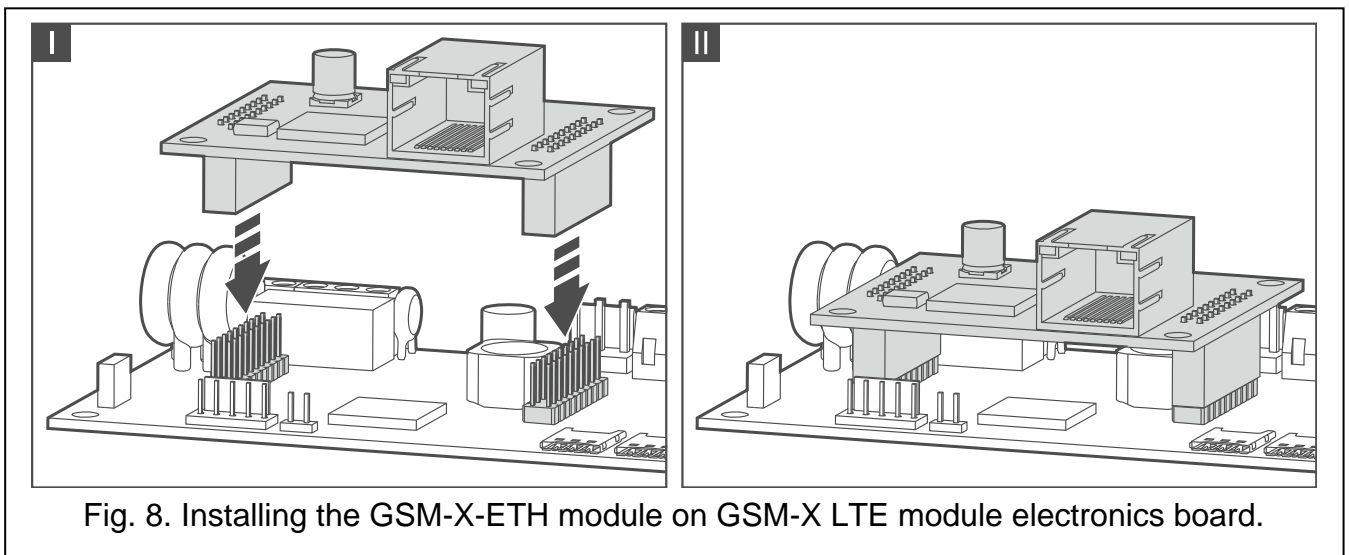

Fig. 8. Installing the GSM-X-ETH module on GSM-X LTE module electronics board.
3. Install the GSM-X-ETH Ethernet module in the connectors on the GSM-X LTE module electronics board (Fig. 8).